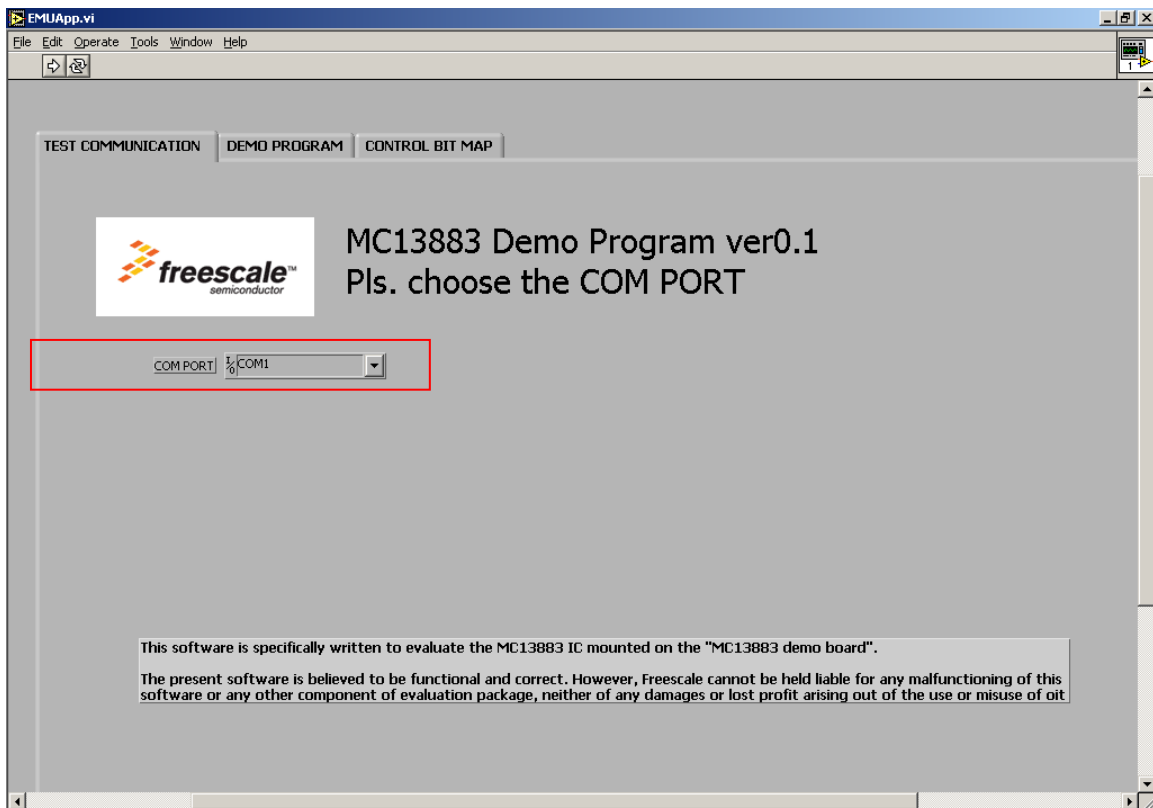

Figure 2. TEST COMMUNICATION Page for Selecting the Communication Port
2. The program's **TEST COMMUNICATION** page appears as shown in Figure 2. It is highly recommended to use this page to start the demo.